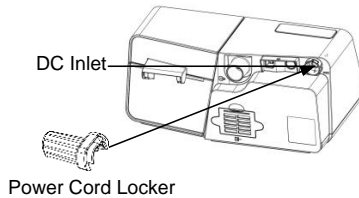

Fig. 12-5
(1) Insert the power cord locker into the device, as shown in Fig. 12-5, and then rotated to the left for assembly to the device.